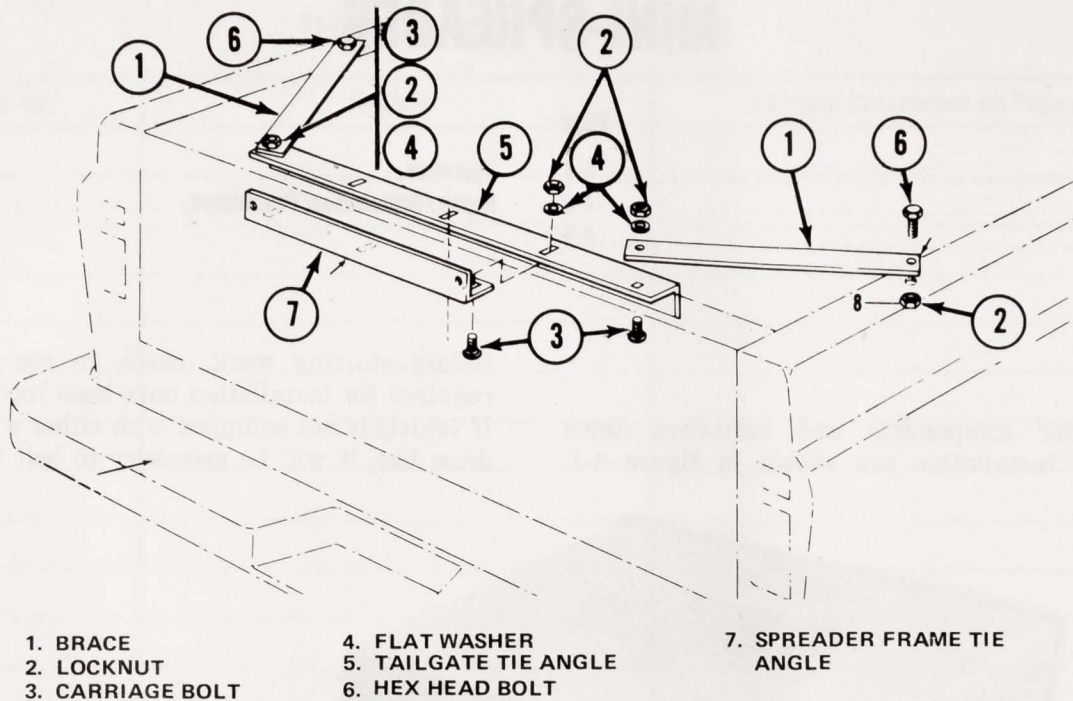

Fig. 4-2 Tie Angles and Braces
(1) Locate center of tailgate and scribe a chalk mark as a guide for centering spreader.
(2) Position tailgate tie angle on tailgate (fig. 4-2). Position spreader frame tie angle on tailgate tie angle and secure with carriage bolts, flat washers, and locknuts (fig. 4-3).
(3) Attach braces to tailgate tie angles with bolts, washers, and locknuts.